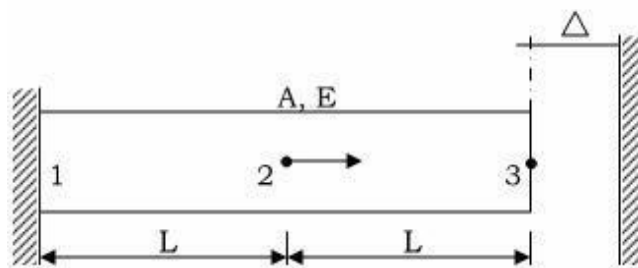

Fig. 6
7. a) Determine the element stresses, strains and support reactions for the given bar problem as shown in Fig. 6